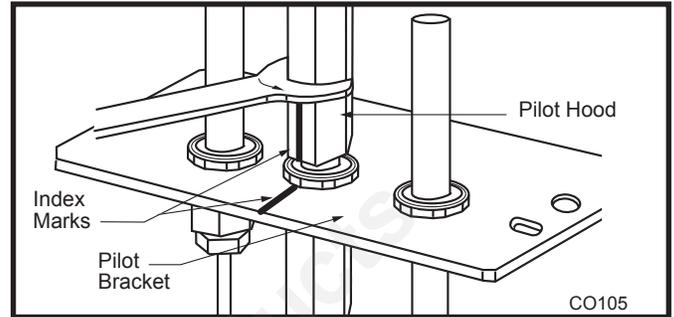

Fig. 76 Remove pilot hood.
- 1. Loosen pilot hood turning counterclockwise using a 7/16" wrench. (Fig. 76)